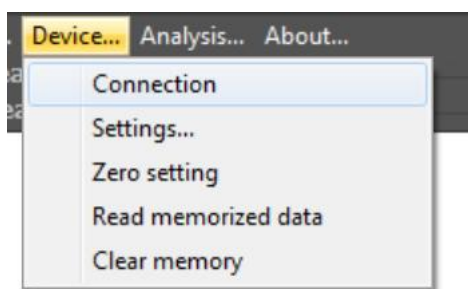

Figure A.5. "Device ..." Menu
5.3.2 The “Device ...” menu establishes connection with the milliteslameter and sets the TPM-250. It consists of the following items (see Figure A.5):